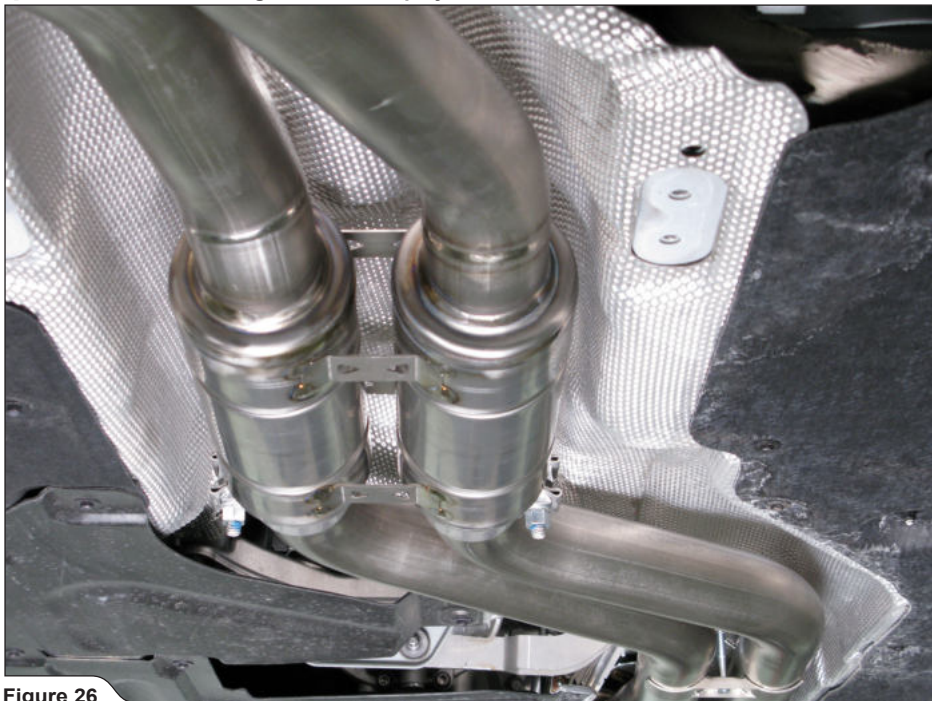

Figure 26
10. **For Evolution:** slide the Collector all the way onto the Evolution Link Pipes. Align the Evolution Link Pipe and Collector in respect to the chassis and hand tighten the clamps (**Figure 26**).